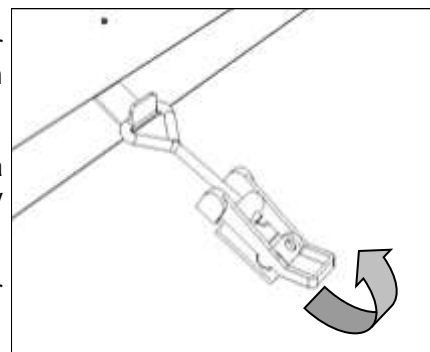

Fig. 38
2. Release the toggle latches that secure the cover to the rear of the mower (Fig. 38). Lift the loops clear of the strikes on the cover.